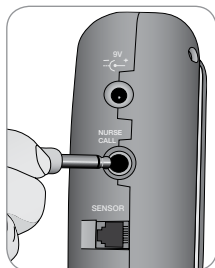

Fig. 20
1. Insert one end of cable into "Nurse Call" jack on right side of alarm (fig. 20).